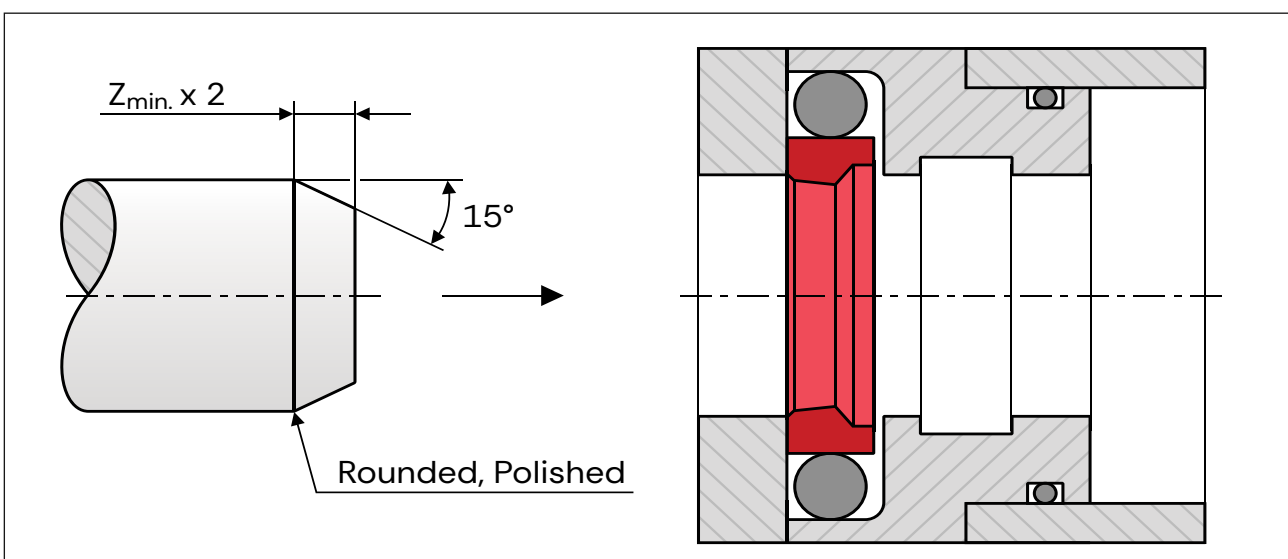

Figure 17: Calibration of the seal once it is installed.
- Ensure the piston rod has a suitable lead-in chamfer; if not, a calibration mandrel should be used as shown in figure 17.